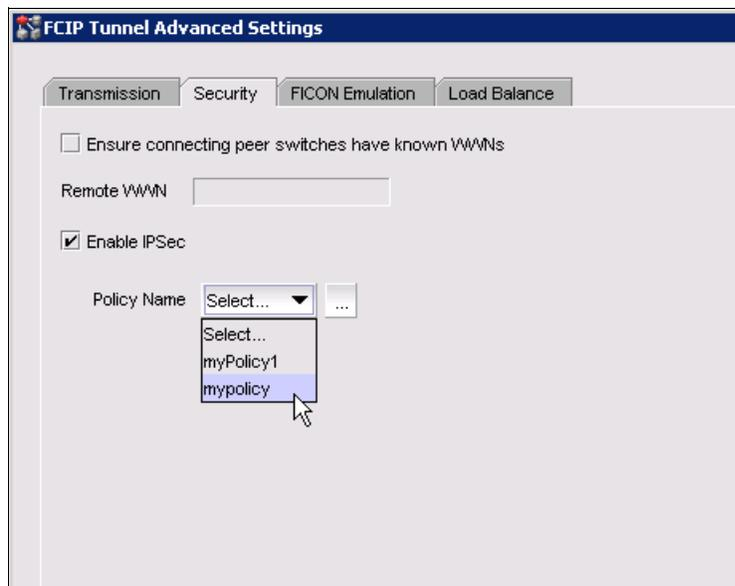

Figure 4-19 Select an IPsec policy
8. Select the policy that was created and click **OK** to complete the task (Figure 4-19).